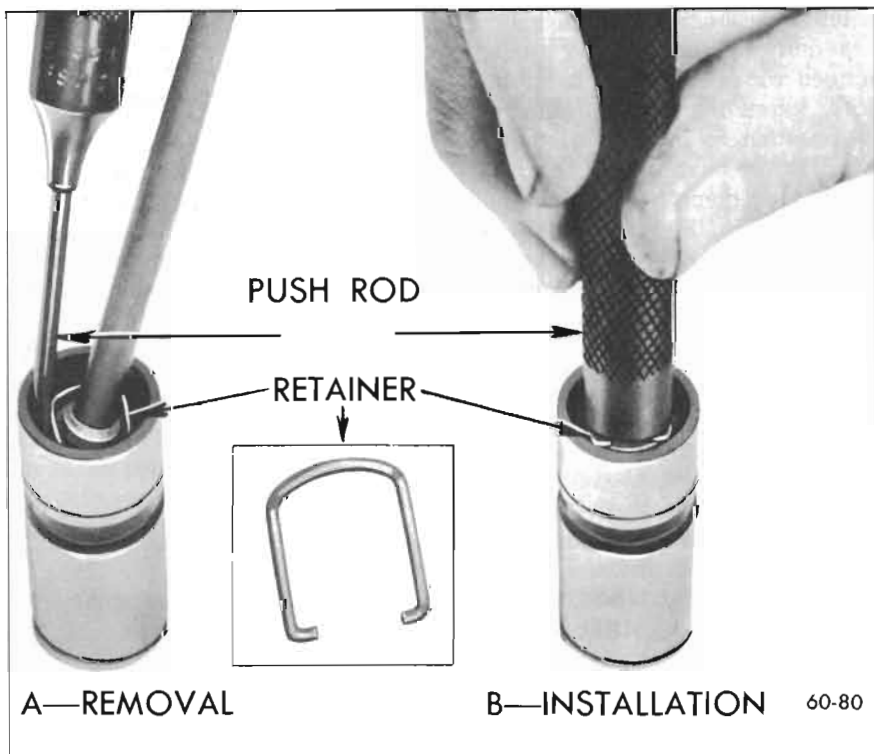

Figure 60-80—Removing and Installing Plunger Retainer
5. Disassemble each valve lifter by using a push rod to hold down the push rod seat while removing the plunger retainer from the lifter body using Retainer Remover J-5238. See Figure 60-80. Remove push rod seat and plunger from lifter body.
17. Rinse push rod seat and plunger retainer, place these parts in end of body and depress with handle of Remover J-5238 until retainer engages groove in body. See Figure 60-80, View B.